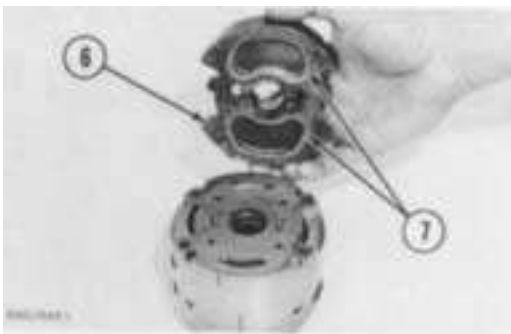

FIGURE 7-39
3. Place the seals (7, Figure 7-39) on the pressure plate (6). Set the pressure plate on top of the wear plate (2). Install the bolts in the holes closest to the arrow that is in the same direction as the arrow on the cam ring (3). Tighten the bolts.